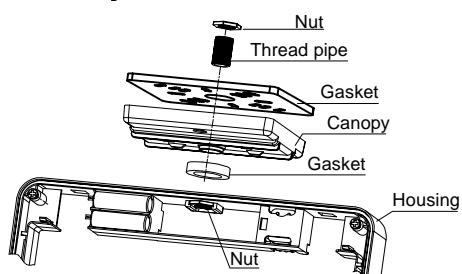

Fig 5
4. Knock out the mounting hole on the top or side of the unit, assemble the canopy on the unit (see Fig 5).